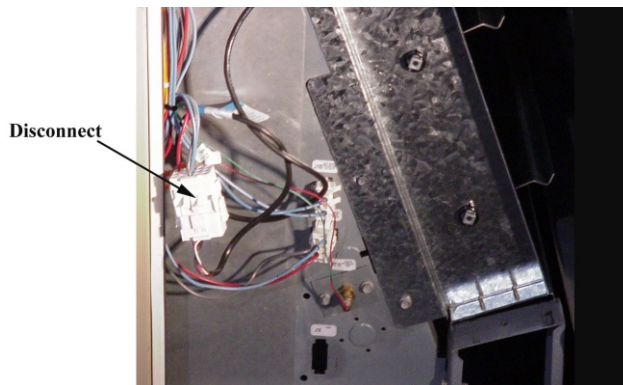

Figure 3
- 5- Disconnect plug P3 from connector J3. **See Figure 3 and 4.**